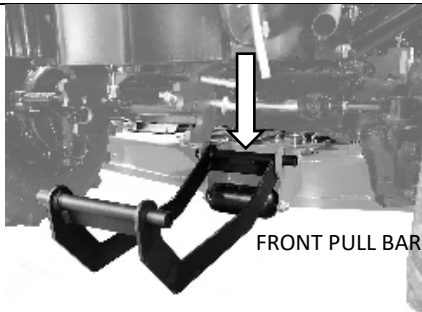

Figure 7C
6. Place the rear of the Front Pull Bar (item 2) into hooks located on the front portion of the mower deck (figure 7C).